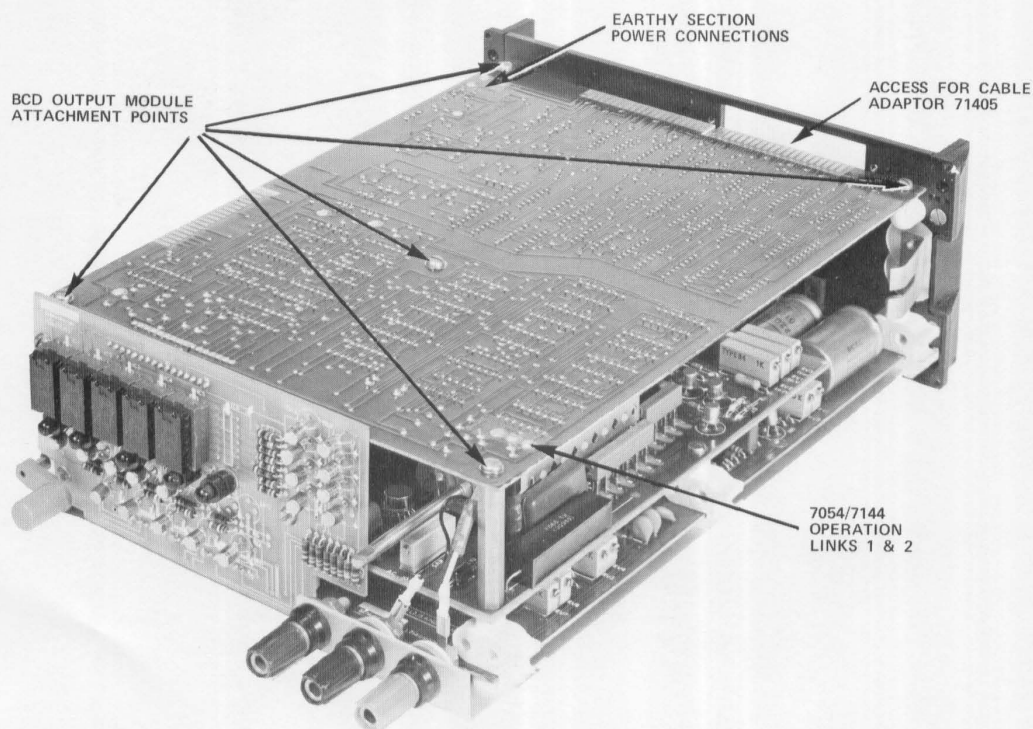

Fig. 2.1 View of 7144 showing location of the Operation Links 1 & 2 and the Earthy Section power supply connections.
- (a) Remove the DMM case and check that the BCD Output Module is correctly linked for the type of DMM used. Fig. 2.1 shows the location of the links and the floating section power connections.